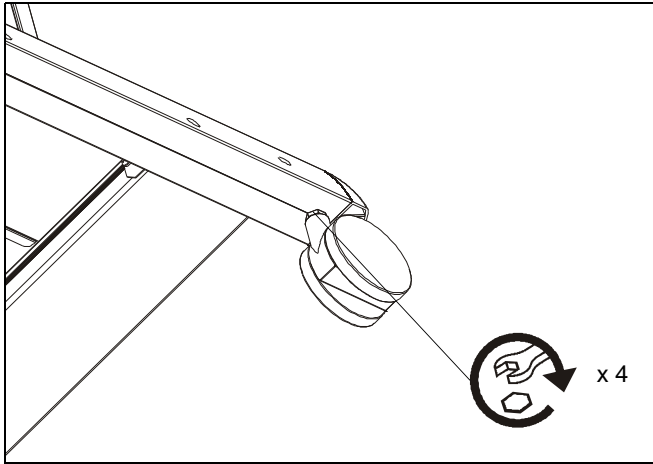

Figure 21
3. Check and tighten the hex nuts on the casters occasionally. (See Figure 21) These should be checked especially after use on uneven ground.